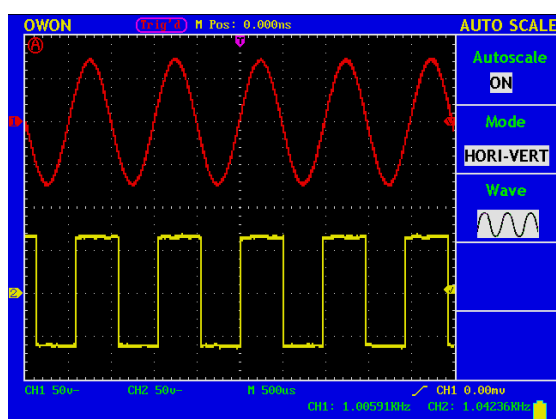

Fig.62: Multi cycles mode
4. Press **F3** to choose  and press F3 to change to . See Fig.62/63 for details.